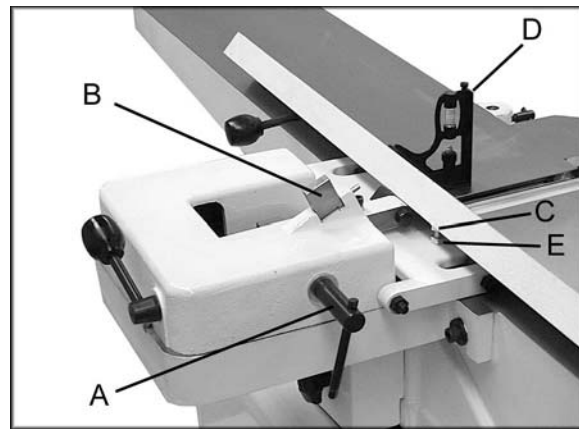

Figure 16
1. Loosen lock handle (A, Fig. 16). Move the stop plate (B, Fig. 16) out of the way and position the fence at the 45° angle. Make sure the fence sits against the stop bolt (C, Fig. 16).
2. Place a combination square (D, Fig. 16) on the fence and table to confirm a 45° setting.
3. To adjust, loosen lock nut (E, Fig. 16), turn bolt (C, Fig. 16) until a 45° angle is obtained, and tighten lock nut (E, Fig. 16). Tighten lock handle (A, Fig. 16).